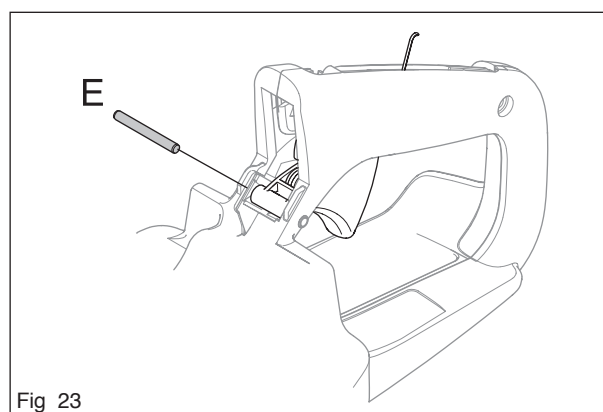

Fig 23
Hold the spring and insert the throttle lock into the cut-out in the handle (see figure 23).
Fit the throttle control pin (E) with the help of a punch. (see figure 23)